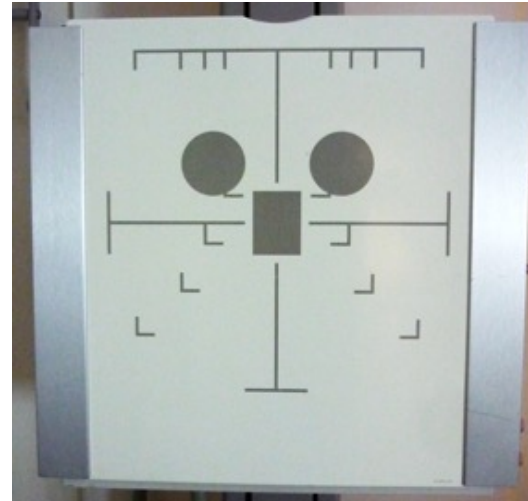

FIGURE 23
- / Most of AEC systems consist of three or five radiation-measuring sensors, two lateral and one central, as shown in Fig. 23.